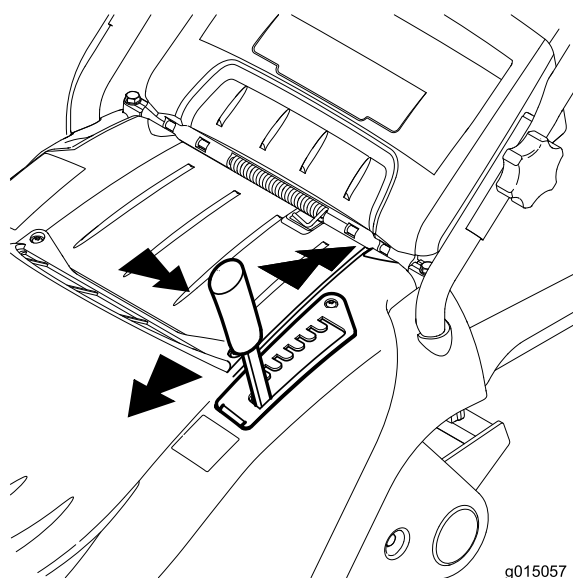

Figure 13
2. Pull the height-of-cut lever out of the position slot it is in, and move it forward or rearward to the desired slot (Figure 13).